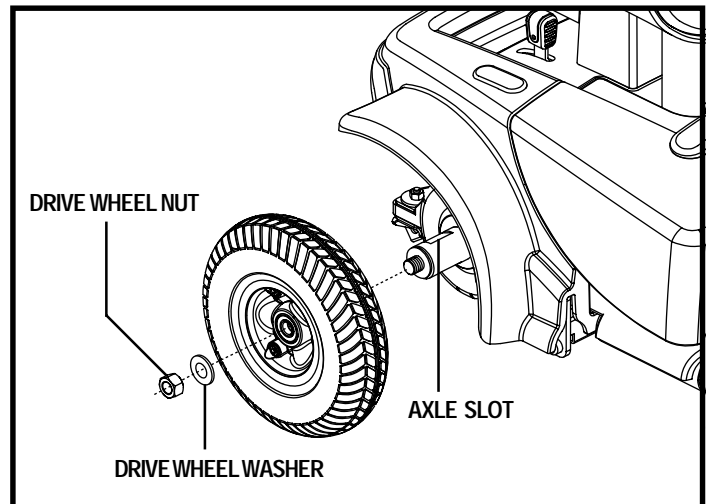

Figure 26. Z-Chair Drive Wheel
3. Remove the drive wheel nut and washer from the axle. See figure 26.